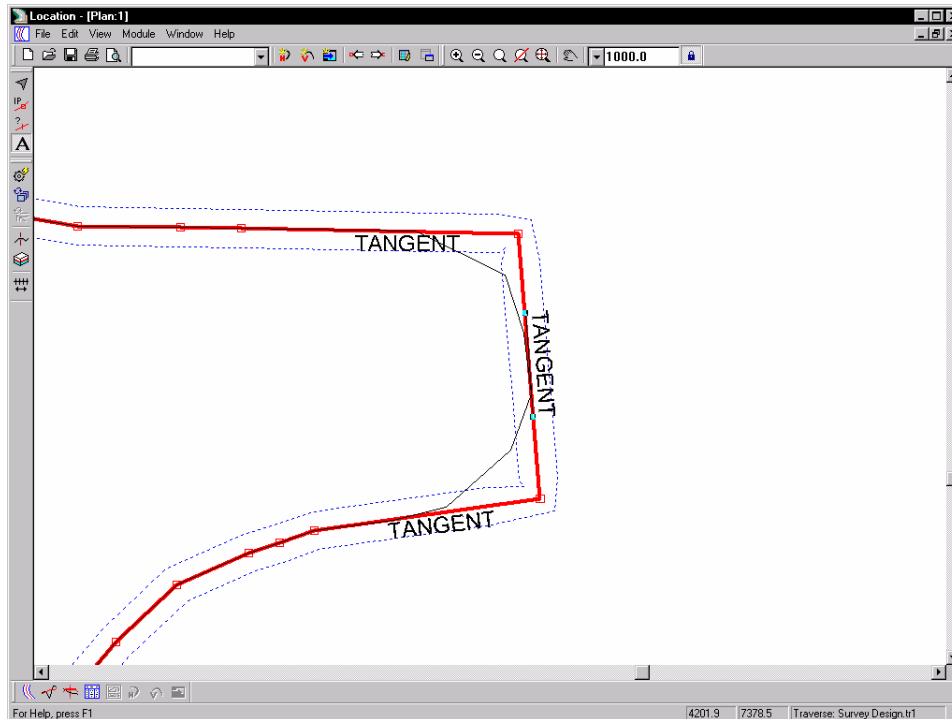

Figure 5.18: Two IPs and Three Tangents
3. Create two new points as shown in the Figure 5.18 (without the labels!).